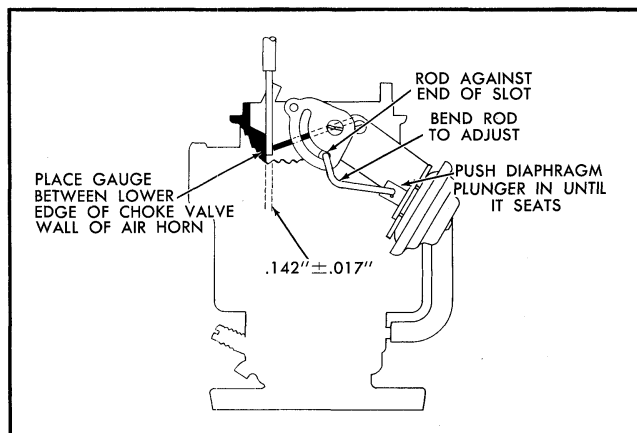

Fig. 6B-33 Vacuum Break Adjustment
9. Attach the fast idle cam to the throttle body assembly with the fast idle cam screw and tighten securely. The steps on the fast idle cam should face towards the idle speed screw (Fig. 6B-32).